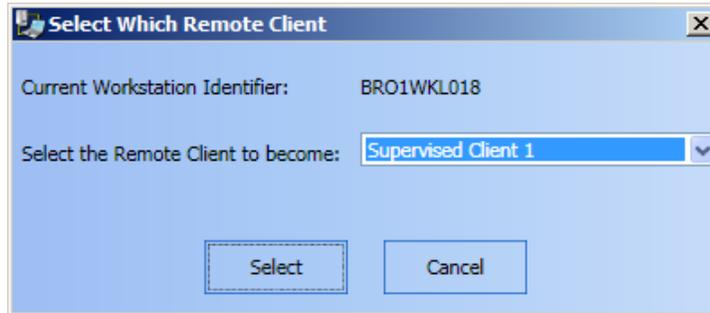

Figure 13-4 Select Which Remote Client Dialog Box
- The **Select Which Remote Client** dialog box appears (Figure 13-4), prompting you to give a slot name or a number, to the Remote Client PC. This name will be used to identify a unique Remote Client in the TSW application. Click **Select** when that step has been completed.